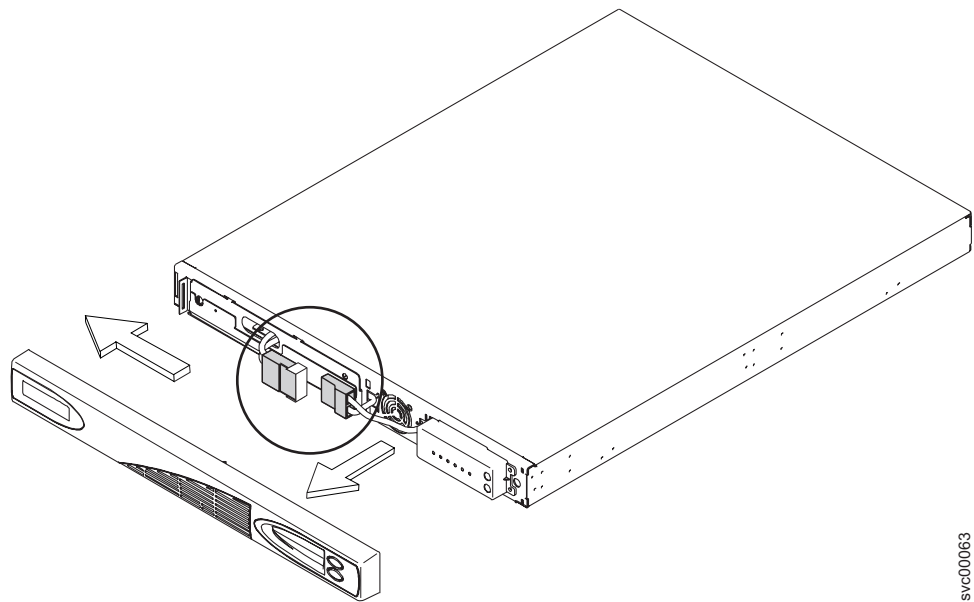

Figure 207. Removing the 2145 UPS-1U front panel
5. Remove the 2145 UPS-1U front panel by pulling it towards you and to the left, as shown in Figure 207.